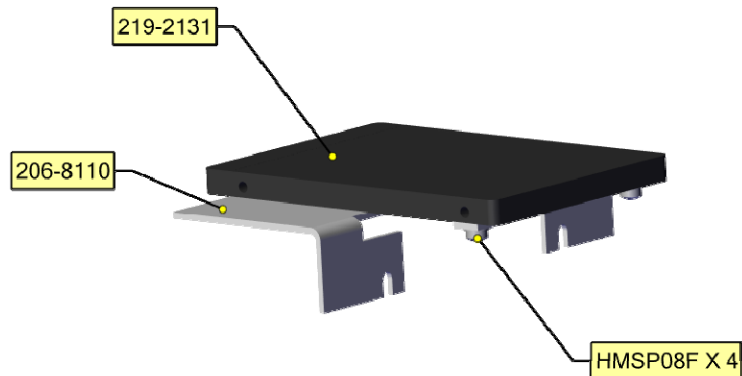

Figure 7: SSD Drive Mounting
- (l) Mount the SSD Drive (Nautel part # 219-2131) to the Mounting Bracket (Nautel part # 206-8110) using the four (4) M3 screws. See Figure 7.